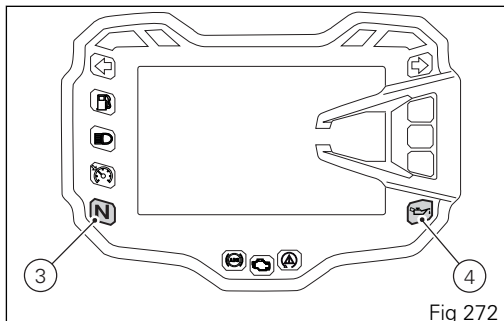

Fig 272
The red oil pressure warning light (4, Fig 272) should go out a few seconds after the engine has started. The engine will shut off by turning the red button (1) on the handlebar to RUN OFF. To turn on the "Hands free" system and all electronic onboard systems, refer to page 249 "Hands Free System".